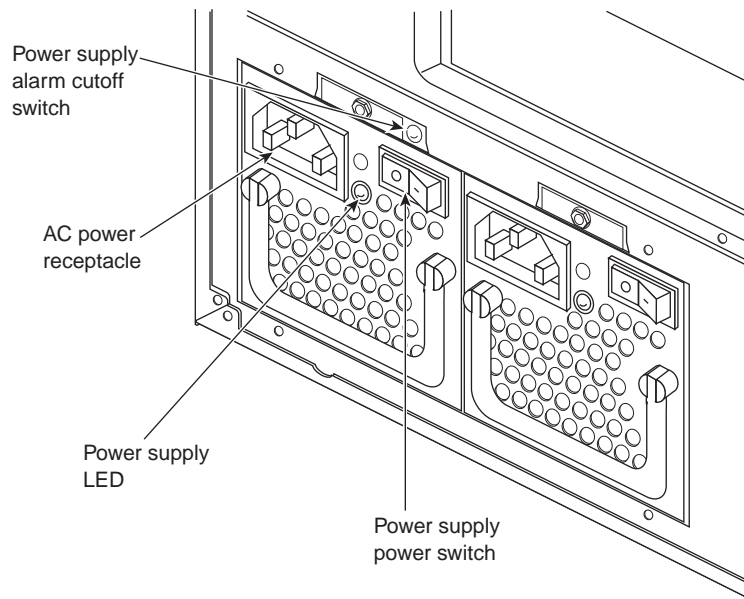

Figure 1 Power Supplies
Your system may have shipped with different power supplies than the ones described in the *Zx10 6U Rackmount/Deskside Owner's Guide*. This document contains information on connecting to, using, and replacing the new power supplies (shown in Figure 1).
- See Figure 1 to locate the AC power receptacles and the power switches.
The information on responding to a power supply alarm (in Chapter 4 of the owner's guide) applies to the new power supplies. See Figure 1 to locate the alarm cutoff switch.